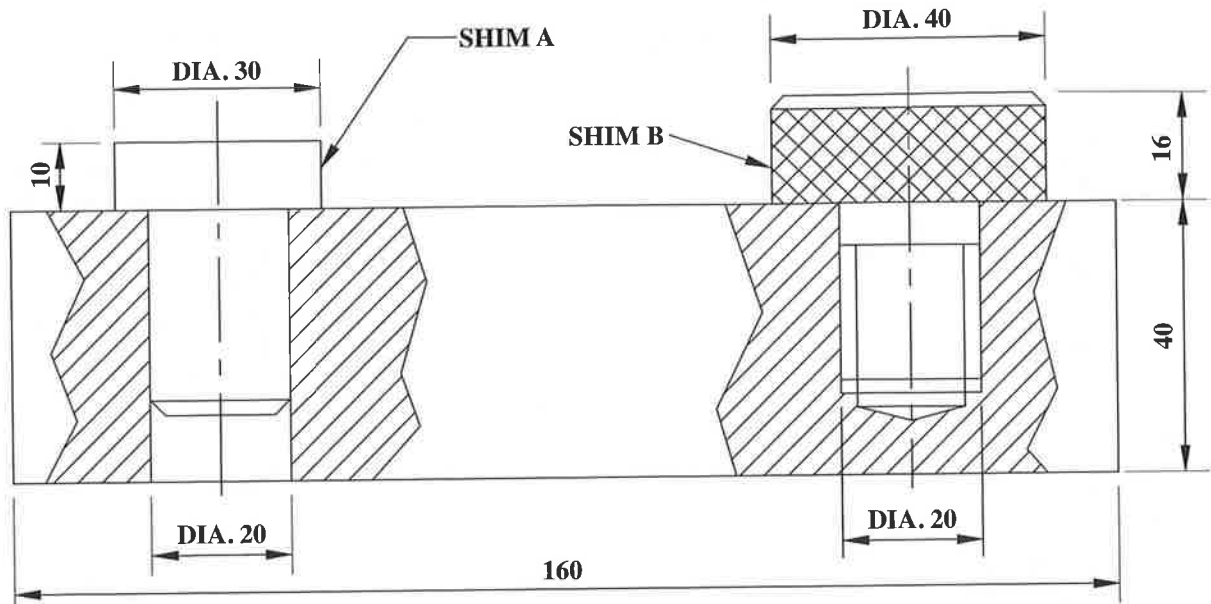

Figure 2. Support block
2. Figure 2 shows two shims to be secured in the supporting block as follows: